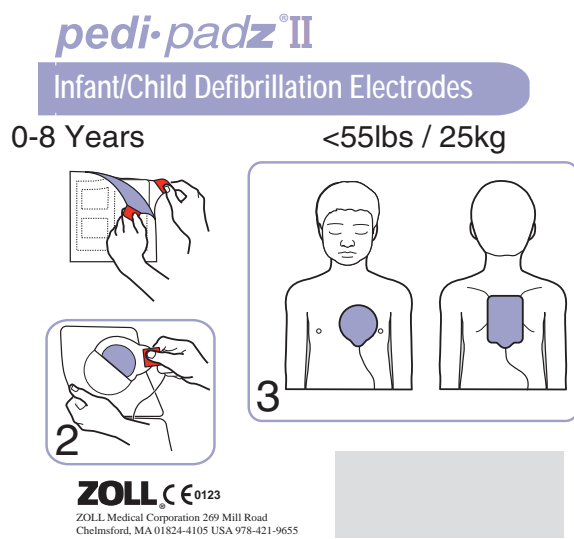

Figure 6: Placement of *Pedi-padz II*
1. Tear open the electrode package and unfold the inner package to expose the electrodes. Place the electrodes on the victim according to the graphics on the package (see Figure 6).
2. Remove the round electrode from its backing material and place it on the victim's chest (as shown in Figure 6).
4. Roll the victim onto his/her chest, remove the square electrode from its backing and place it on the victim's back (as shown in Figure 6).